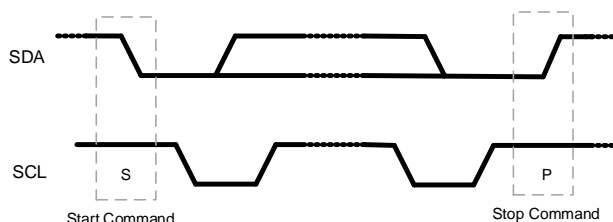

Figure 17: Start and Stop Commands
The start (S) and stop (P) commands are signaled by the master device, which signifies the beginning and the end of the I²C transfer. A start command is defined as the SDA signal transitioning from high to low while SCL is high. A stop command is defined as the SDA signal transitioning from low to high while SCL is high (see Figure 17).